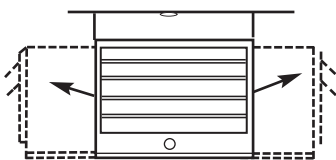

Figure 8 – Adjustable Louvers
3. Adjusting the louvers to the desired position (see Figure 8).